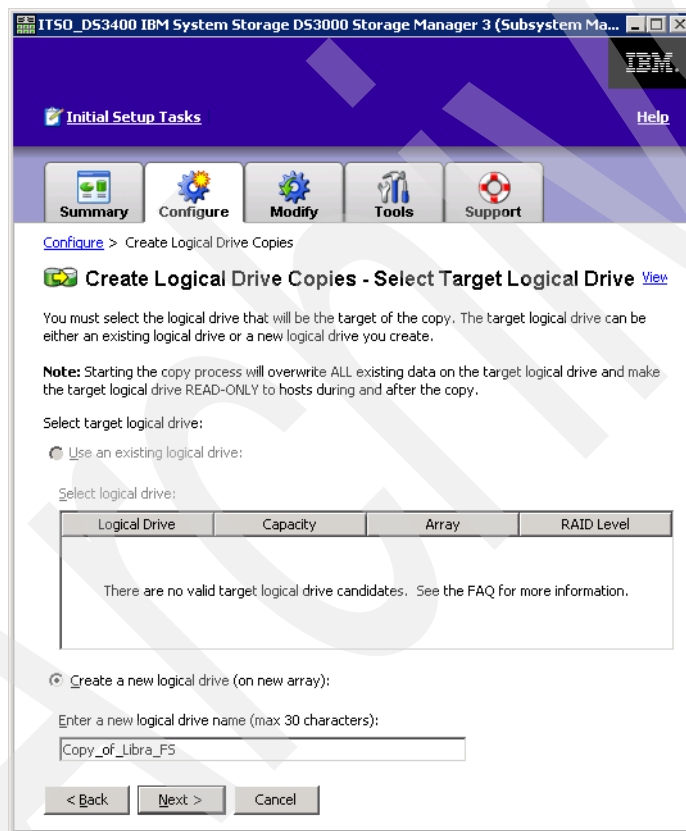

Figure 9-75 VolumeCopy - Select Target Logical Drive
5. Select a target logical drive. You have two choices (Figure 9-75):